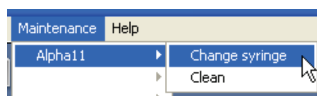

Figure 155: Change syringe option in the Maintenance menu
2. From the *Maintenance* menu select the appropriate Processing Module then select “Change syringe” (see Figure 155).